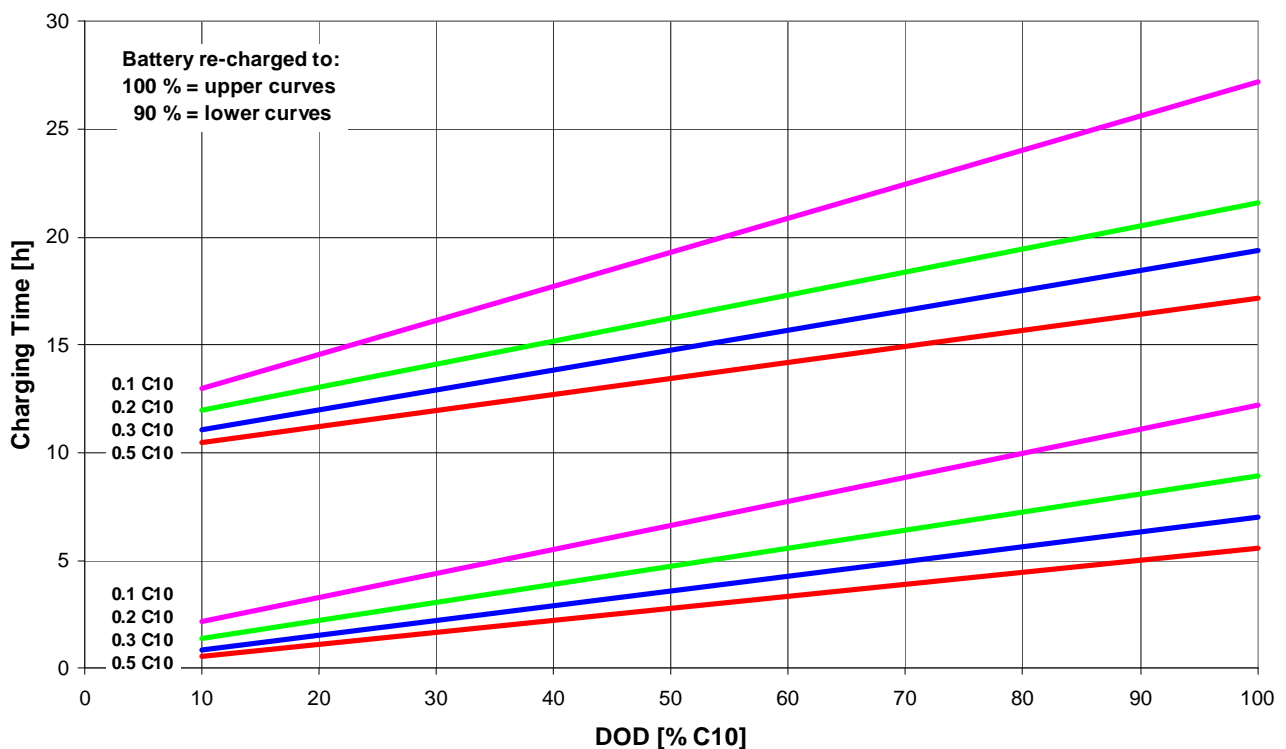

Fig. 7: Charging Time vs. Depth of Discharge (DOD) - Re-charging with 2.27 Vpc and different currents (Ampere = Ah-value of C₁₀)
- Example on how to interpret the diagrams (fig. 7): A battery discharged to 75% depth of discharge (DOD) can be re-charged to 90% available capacity within about 7 hours at a charge voltage 2.27 Vpc and a charge current 0.2 C₁₀ (20% of the capacity, but the value in Ampere).